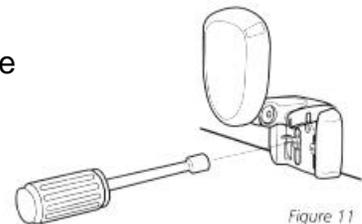

Figure 11
4. Force the pivot to the up position to gain access to the mounting screws. Assure the transducer location has not changed, then fully tighten the two mounting screws (Figure 11). Snap the pivot back down.